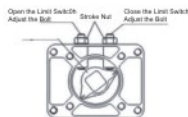

Fig. 7
2. Setting of the mechanical position-limiting (Fig. 7)